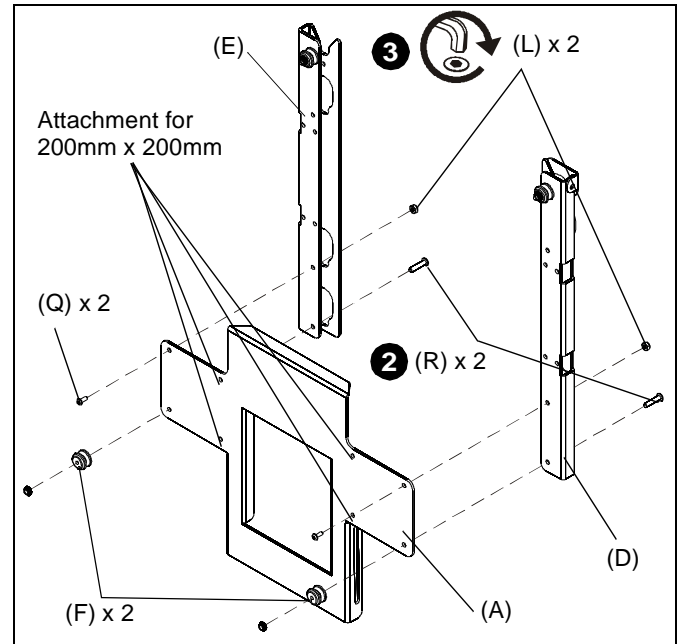

Figure 2
**NOTE:** The PACCS1 is designed to accommodate both 200mm x 200mm and 14" x 14" Q-latch mounting systems. If a 200mm x 200mm pattern is required, use the inner mounting holes on the shelf bracket (A) when installing the uprights (D and E). (See Figure 2)
2. Assemble two lower mounting buttons (F) to uprights (D and E) and shelf bracket (A) using two 10-24 x 7/8" button head cap screws (R) and two 10-24 lock nuts (L).
3. Complete attachment of uprights (D and E) to shelf bracket (A) using two 10-24 x 1/2" button head cap screws (Q) and two 10-24 lock nuts (L). (See Figure 2)